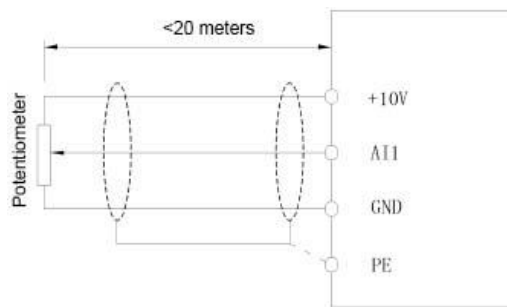
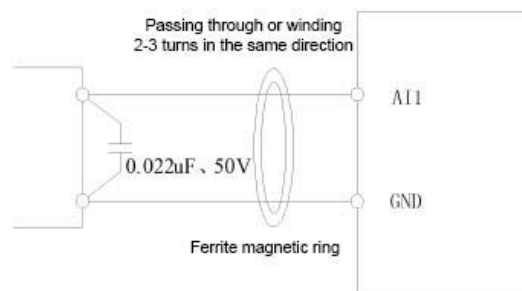

Figure 4-9 Analogue Input Terminal Wiring Schematic
Figure 4-10 Analogue input terminal processing wiring diagram
a) Analogue input terminal: Because the weak analogue voltage signal is particularly vulnerable to external interference, it is generally necessary to use shielded cable, and the wiring distance is as short as possible, not more than 20 m, as shown in Figure 4-9. In some analogue signals are subjected to serious interference occasions, the analogue signal source side of the need to add a filtering capacitor or ferrite core, as shown in Figure 4-10.